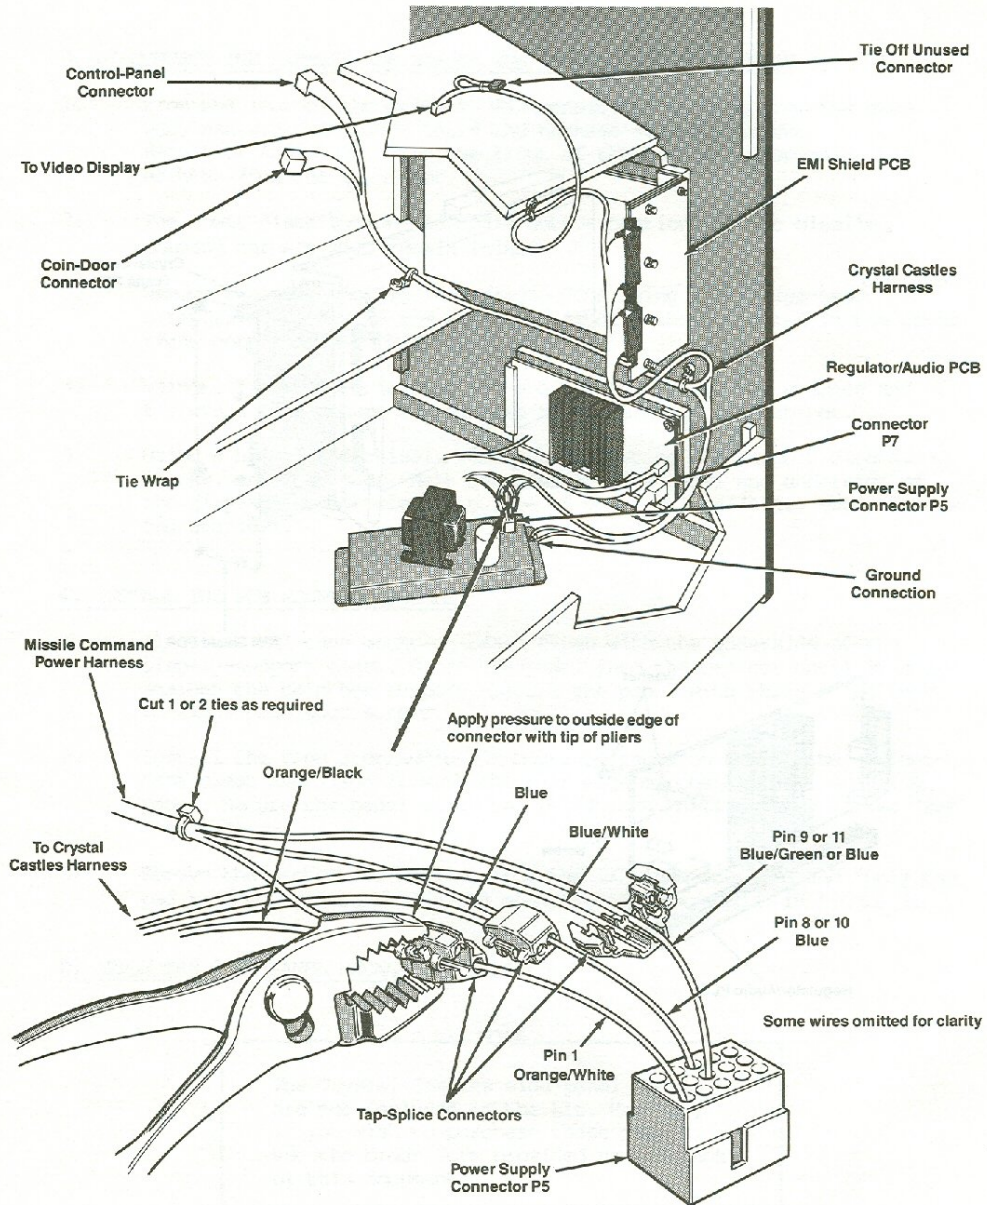

Figure 6 Installing the Harness
2. Remove the Missile Command harness from the Regulator/Audio PCB at connector P7 and replace it with the Crystal Castles harness connector (see Figure 6).
3. Using the tap-splice connectors provided, attach harness wires to those from power-supply connector P5 (see Figure 6) using pliers. For easy access to P5 and the harness wires, remove the tie wraps as necessary.
6. Secure the harness to the cabinet using the nylon tie wraps and 3/4-inch Phillips-head screws (see Figure 6). Wrap the portions of the harness not used around the harness secure to the cabinet.